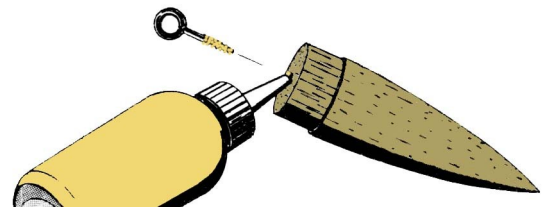

Figure 9
- **Step 20** Use the screw eye to cut a hole in the center of the shoulder of the nose cone, as illustrated in Fig. 9, above. Carefully remove the screw eye and force glue into the hole. Coat the threads of the screw eye and reinsert it into the hole. Do not wipe away the excess glue. Place the nose cone in an inverted position while the glue dries.